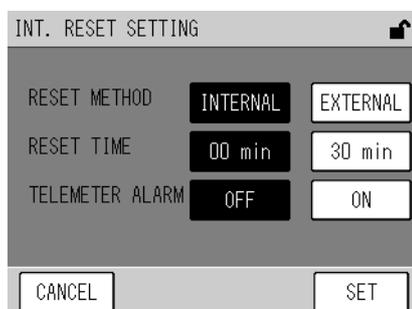

Fig. 72 INT. RESET SETTING screen
- [INT. RESET]: Displays the INT. RESET SETTING screen (Fig. 72 on page 57).